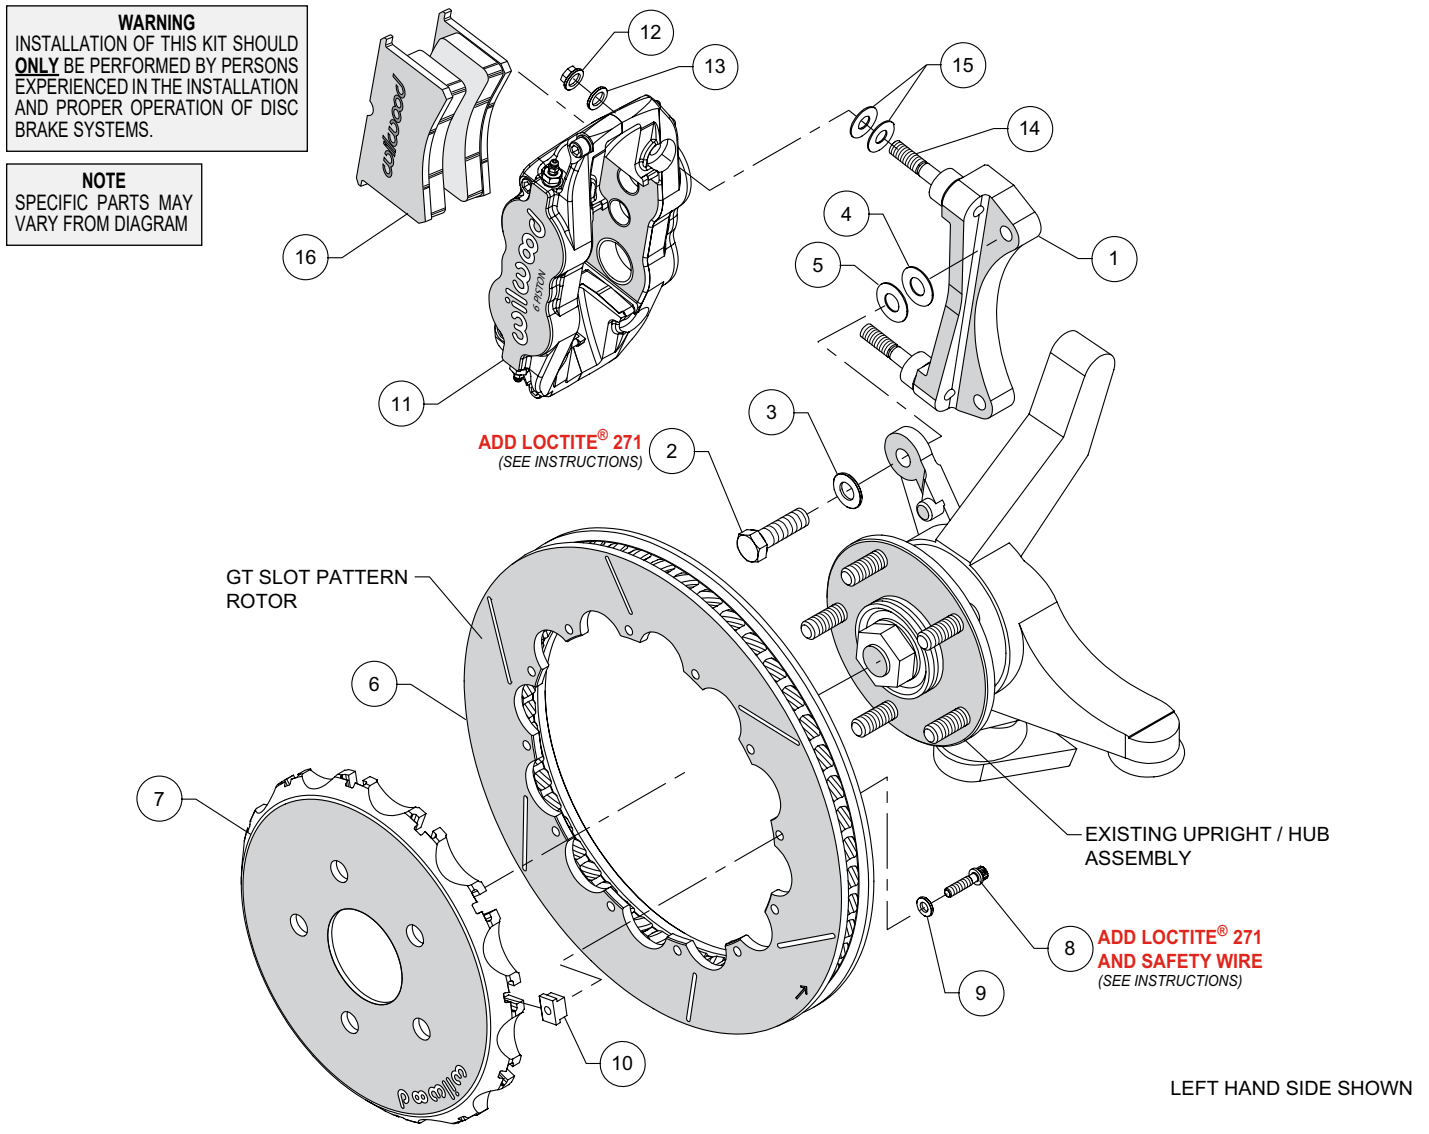
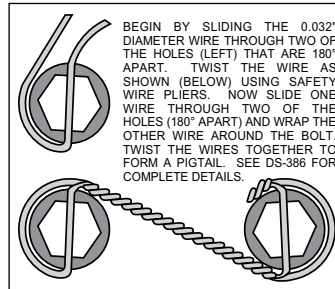

Figure 1. Typical Installation Configuration
Figure 3. Safety Wire Diagram
Assembly Instructions (numbers in parenthesis refer to the parts list and Figure 1 on the preceding pages):
- The caliper mount bracket (1) should initially be installed with clean, dry threads on the mounting bolts. Orient the bracket as shown in Figure 1 and Photo 1, and install using mounting bolts (2) and washers (3). Initially place one each .033" thick shim (4), and .015" thick shim (5) on each bolt between the bracket and upright, Figure 1. Temporarily tighten the mounting bolts. **NOTE:** The bracket must fit squarely against the mount bosses on the upright. Inspect for interference from casting irregularities, machining ridges, burrs, etc. Later, after the caliper alignment has been checked, the mount bolts will be secured using red *Loctite*® 271.
- Orient the rotor (6) and the hat (7) as shown in Figure 1 and Photo 2. Attach rotor to hat using bolts (8), washers (9) and t-nuts (10). Apply red *Loctite*® 271 to the bolt threads and torque to 120 in-lb using a criss-cross pattern. Safety wire bolts using standard 0.032 inch diameter stainless steel safety wire as shown in Figure 3. Please refer to Wilwood's data sheet DS-386 (available at www.wilwood.com/Pdf/DataSheets/ds386.pdf) for complete safety wire installation instructions.
- **NOTE:** This kit contains distinct right and left hand calipers that must be mounted in a specific direction, as described below. Initially place two .035" thick shims (15) on each stud (14) as shown in Figure 1 and Photo 3. Mount the caliper (11) onto the bracket (1) using lock nuts (12) and washers (13), Figure 1 and Photo 4. Ensure that the caliper is mounted so that the largest pistons are at the rotor exit end of the caliper, in relation to the direction of rotor rotation. Temporarily tighten the lock nuts and view the rotor through the top opening of the caliper. The rotor should be centered in the caliper, Photo 5. If not, adjust by adding or subtracting shims (4 and/or 5) between the bracket and the upright. Always use the same amount of shims on each of the two mounting bolts. Once the caliper alignment is correct, remove the bracket mounting bolts one at a time, apply red *Loctite*® 271 to the threads, and torque to 60 ft-lb.